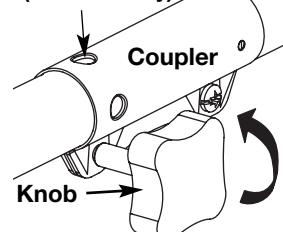
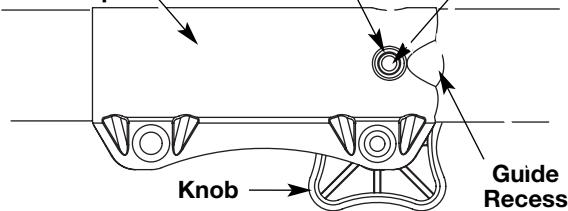
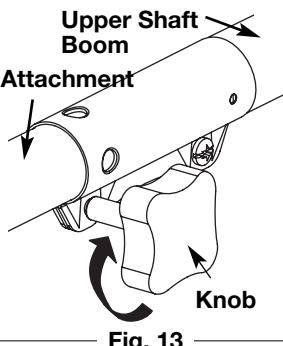

Fig. 11
Fig. 12
Fig. 13
2. Turn the knob counterclockwise to loosen coupler (Fig. 11).
3. Push in the release button (Fig. 12) and twist the shaft 90° until the release button snaps into the 90° hole (Fig. 11).
4. Turn the knob clockwise to lock the coupler (Fig. 13).
2. Turn the knob counterclockwise to loosen the coupler (Fig. 11).
3. While firmly holding the attachment, push it straight into the coupler until the release button (Fig. 12) snaps into the primary hole (Fig. 11). The primary hole is on the opposite side of the coupler from the knob (Fig. 12). Align the release button with the Guide Recess (Fig. 12) to help installation.
CAUTION: Before operating this unit, be sure that the release button is fully snapped into the primary hole (Fig. 12), and that the knob (Fig. 13) is securely tightened.
3. Press and hold the release button (Fig. 12).
4. While firmly holding the upper shaft boom (Fig. 13), pull the attachment out of the coupler.
2. Insert the four (4) screws into the holes in the air filter/muffler cover (Fig. 12) and tighten. **Do not over tighten.**